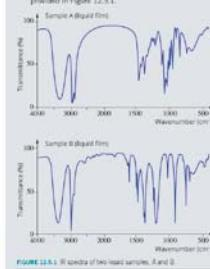

FIGURE 12.1 IR spectra of two liquid samples, A and B.
- The IR spectra of two liquid samples, A and B, are provided in Figure 12.1.